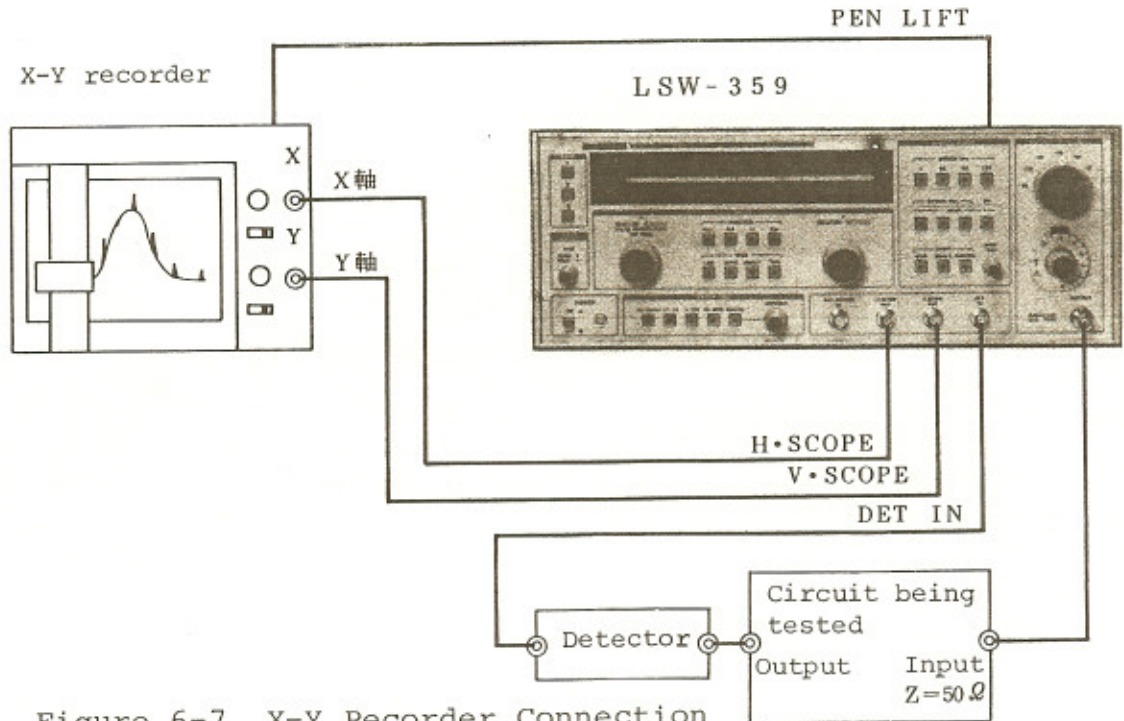

Figure 6-7 X-Y Recorder Connection
- (1) Set the LSW-359 sweep frequency range, output level, markers, etc., according to the circuit to be tested. The set-up can be facilitated by pre-adjusting with an alignment scope.
- (2) Interconnect the LSW-359 to an X-Y recorder as shown in Figure 6-7.
- (3) After removing the PEN LIFT DIN connector from the rear panel, adjust sensitivity of the X-Y recorder X- and Y-axes in the MANUAL sweep mode with the pen lifted.
- (4) Set the LSW-359 MODE switch to SINGLE and the SWEEP TIME switch to 1 to 10s or 10 to 100s.
- (5) With the rear panel PEN LIFT DIN connector connected, load paper in the X-Y recorder and press the LSW-359